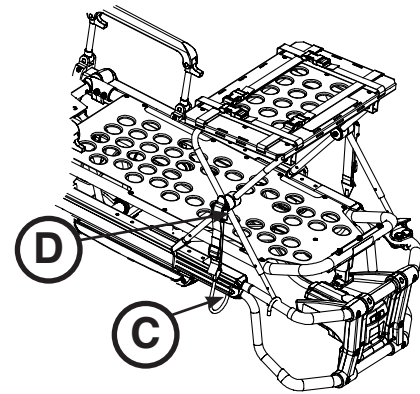

Figure 57
- Place the latch hook (C) under the cot litter frame or foot end fastener and push the tab (D) up until it locks into place with an audible click as shown in Figure 57. Repeat on the other side of the defibrillator platform.